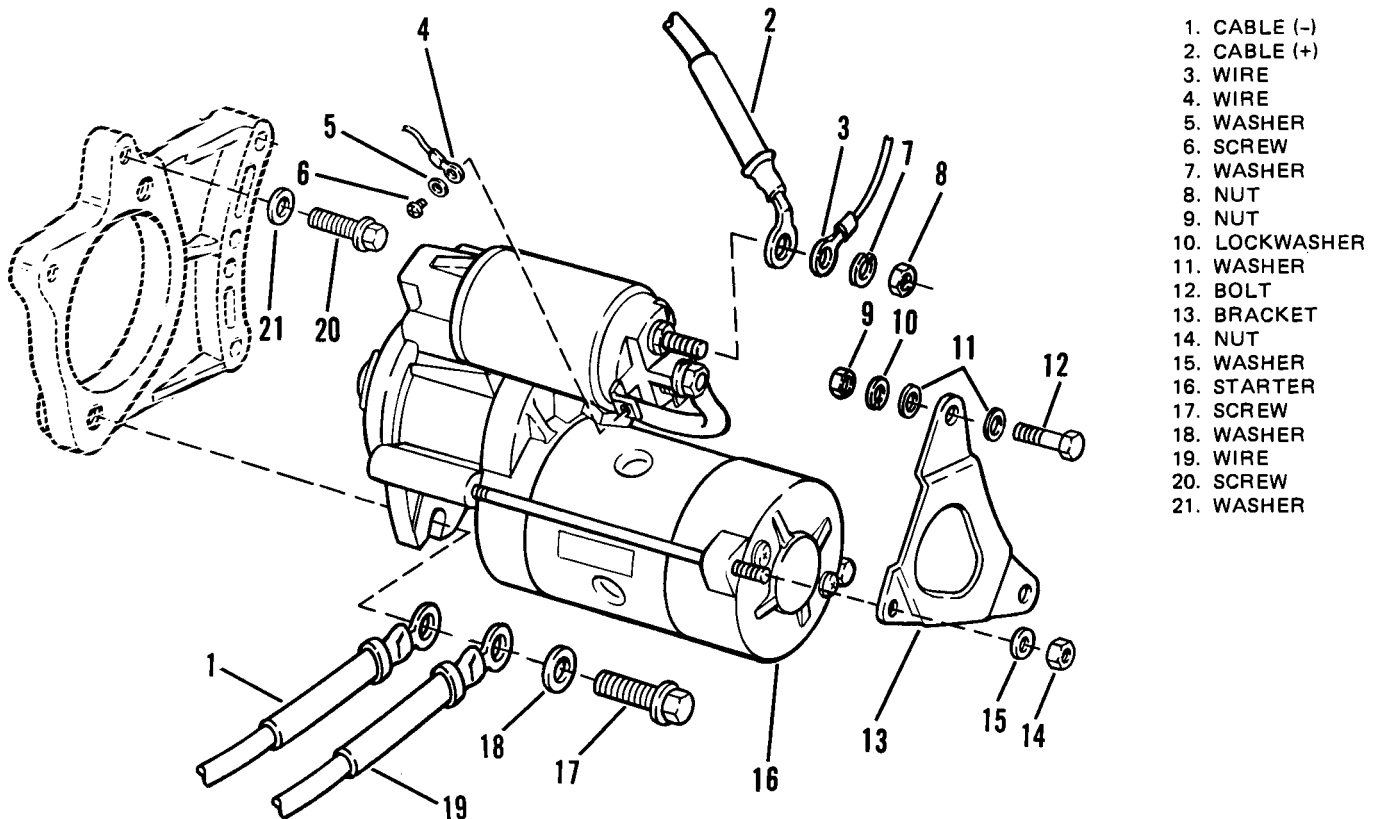

Figure 4-40. Starter.
- (1) Disconnect negative (-) battery cable and positive (+) battery cable from battery (see paragraph 3-17).
- (2) Tag battery cables (1 and 2, Figure 4-40) and remove nuts (8), washers (7), bolt (17), washer (18), battery cables (1 and 2) and wires (3 and 19) connected to starter assembly.
- (3) Remove screw (6), washer (5) and wire (4).
- (4) Remove two bolts (12), washers (11), lockwashers (10) and nuts (9).
- (5) Remove nut (14) and washer (15).
- (6) Remove rear starter bracket (13).
- (7) Remove screw (20), washer (21), and starter (16).